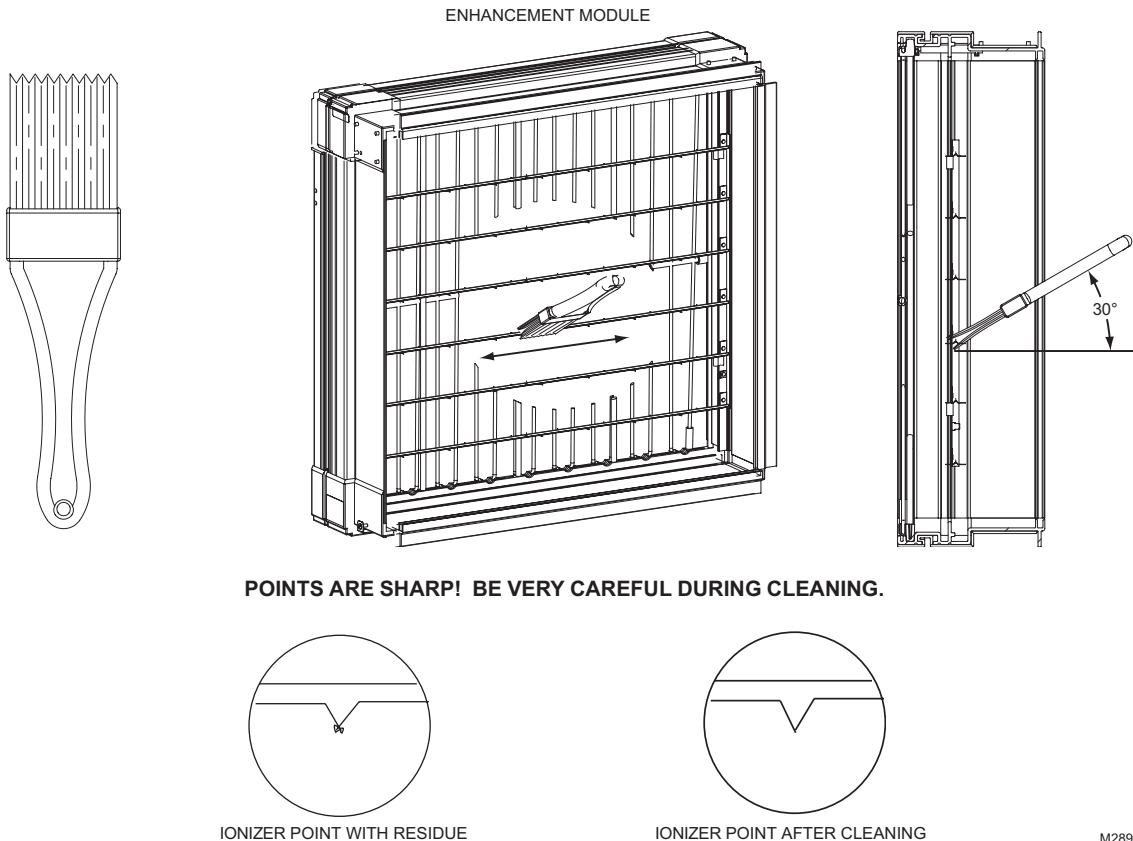

Fig. 19. Removal of deposits from ionization points.
7. Gently stroke the ionization points on the top plane of each bar with enough brush depth to hit front and back tips of the points in the ionization array. Use a gentle back and forth brushing motion to clean any small accumulations from the tips of the points. If desired, use vacuum cleaner with brush attachment to gently vacuum the frame and components of enhancement module. (See Fig. 19 on next page.)